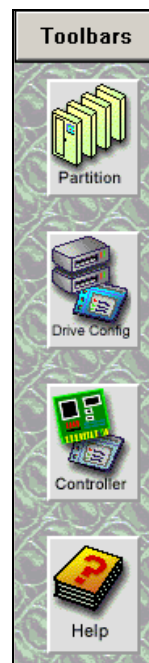

Figure 6-1
- ◆ Select the **Configuration** toolbar (Figure 6-1).